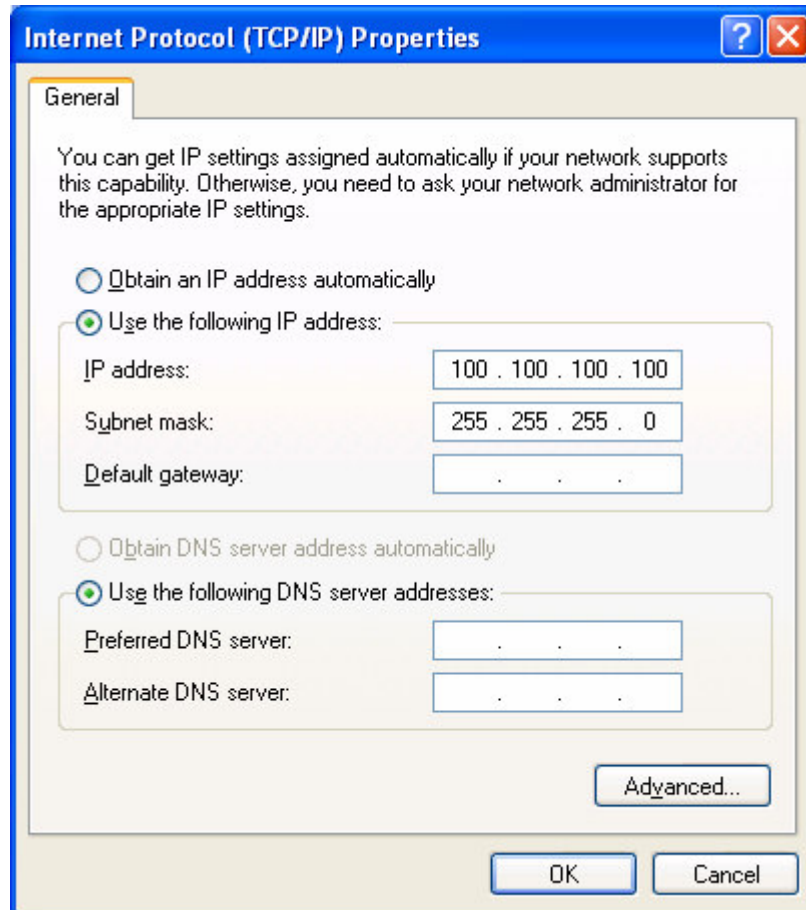

Figure 5.5-7 [Internet Protocol (TCP/IP) Properties] dialog
- (f) After you complete the operation described in (e), the [Internet Protocol (TCP/IP) Properties] dialog will appear. Set up the [Internet Protocol (TCP/IP) Properties] as shown in Figure 5.5-7 and click [Advanced]. The chart below shows sample values of the [IP Address] and [Subnet Mask]. If any values have been set up previously, it is not necessary to change them.
- (i) Click [OK] on the dialog shown in Figure 5.5-7.